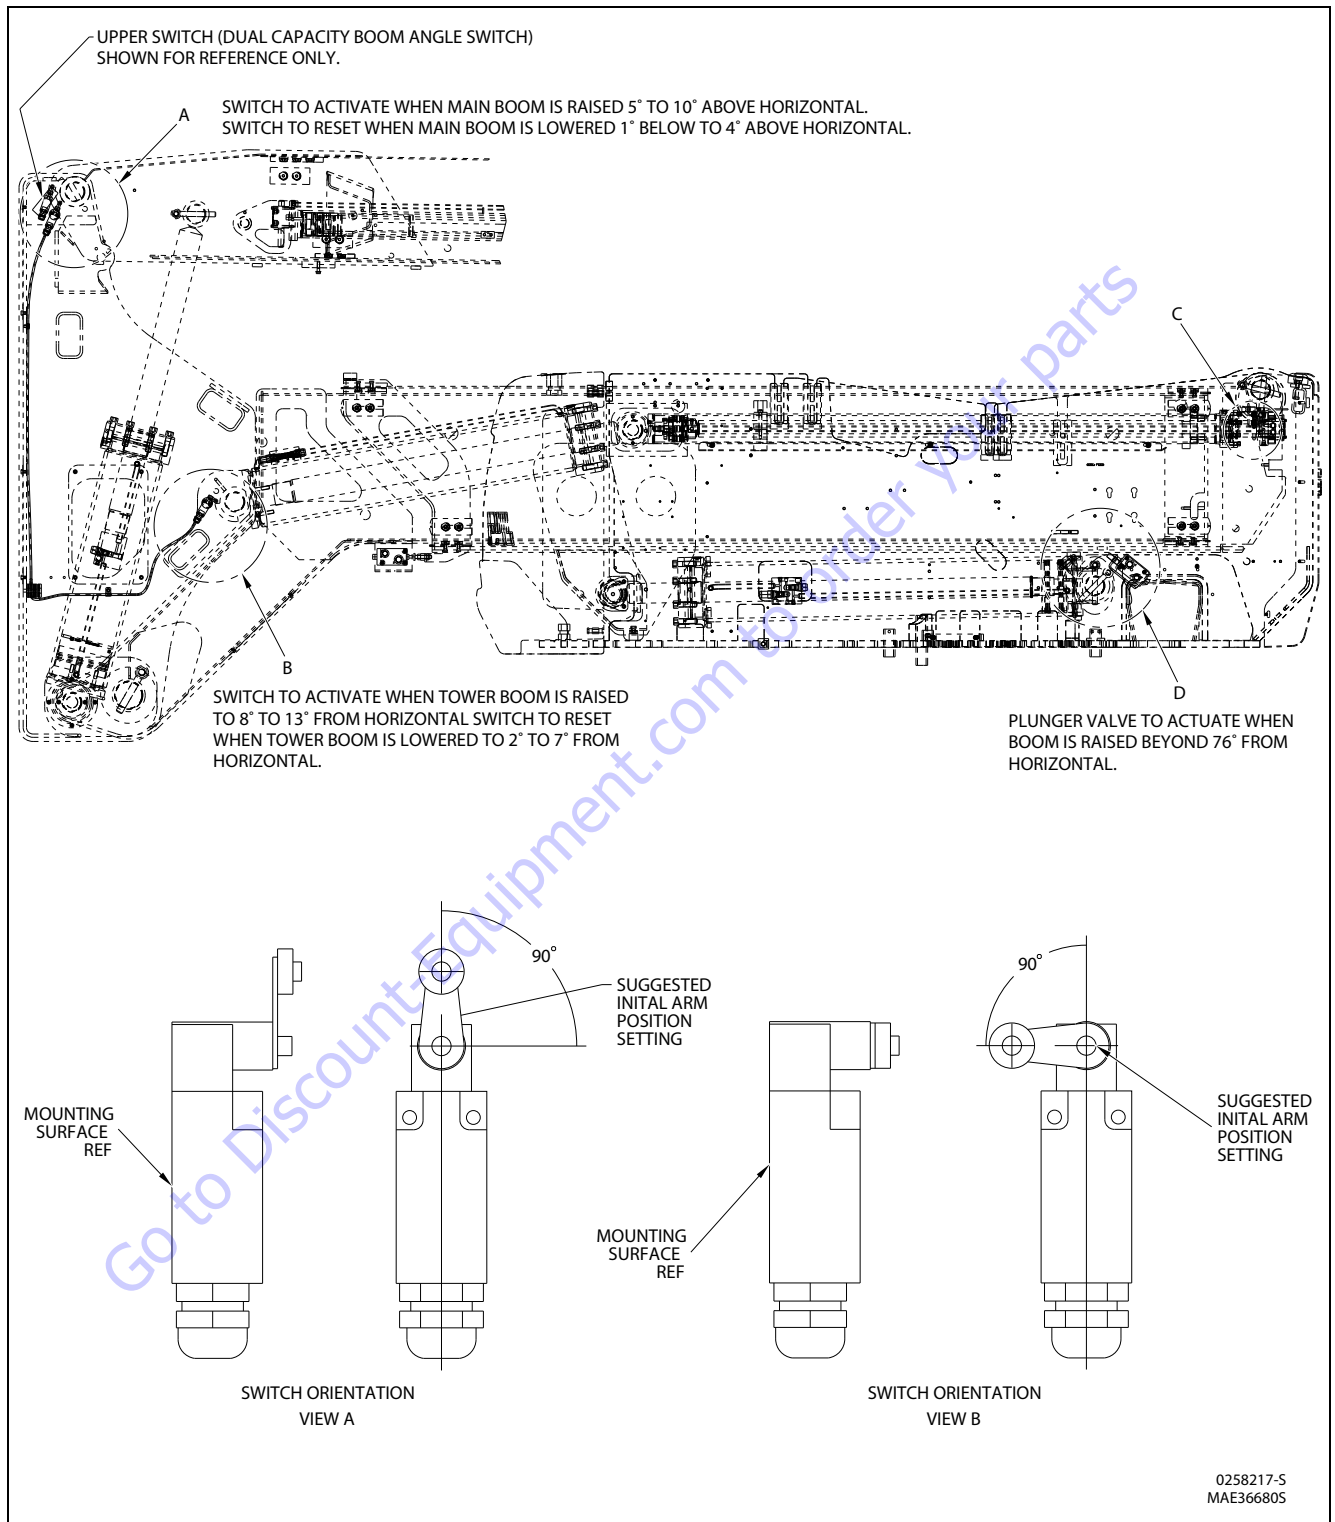
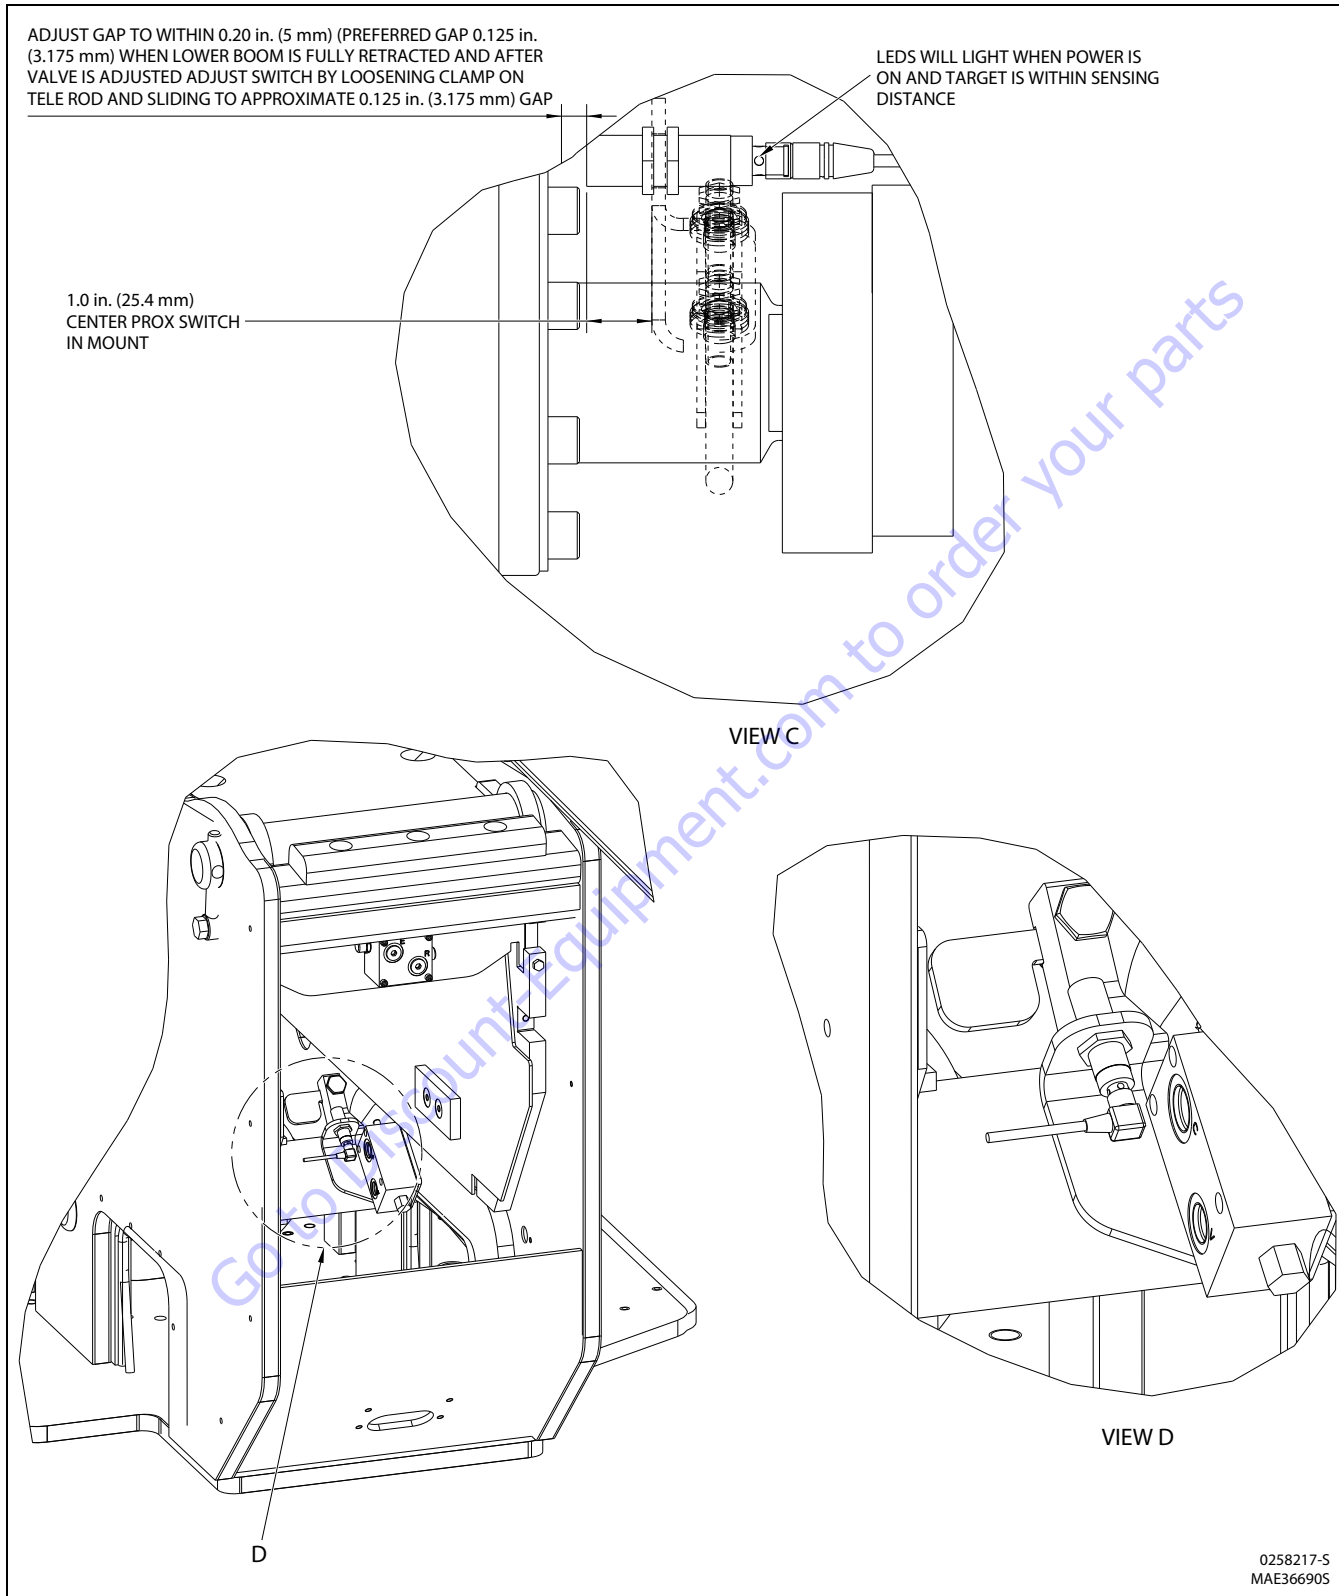

Figure 4-15. Boom Valve and Limit Switches Location (Sheet 1 of 2)
Figure 4-16. Boom Valve and Limit Switches Location (Sheet 2 of 2)
3. Lower main boom until limit switch resets. This should be 1 degree above to 4 degrees below horizontal. (See Figure 4-16.) for adjustments.
3. Lower the tower boom until the limit switch resets. This should be 2 to 7 degrees below where the switch was activated. (See Figure 4-15. and Figure 4-16. for adjustments).